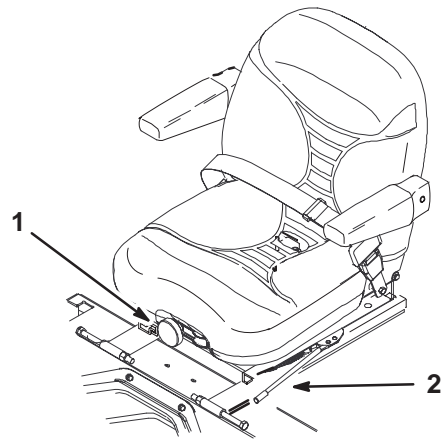

Figure 25
1. To adjust, move the lever sideways to unlock seat (Fig. 25).
1. To adjust, turn the knob in front either direction to provide the best comfort (Fig. 25).